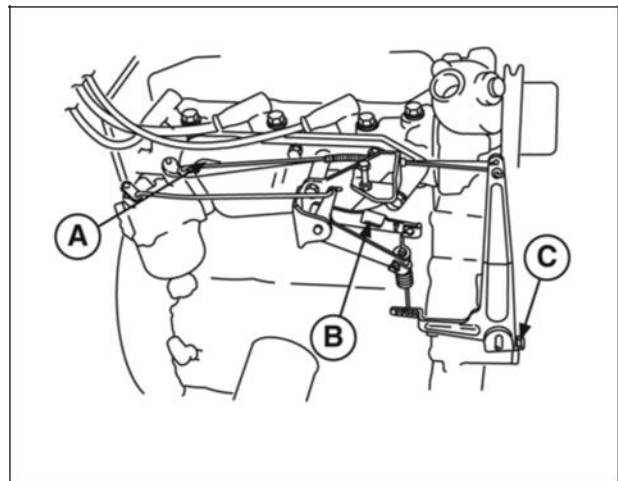

Figure 1
3. Remove governor link spring (A, Figure 1) and governor link from carburetor.
4. Remove governor spring from governor lever (B).
5. Loosen nut (C) and remove governor lever from governor shaft.